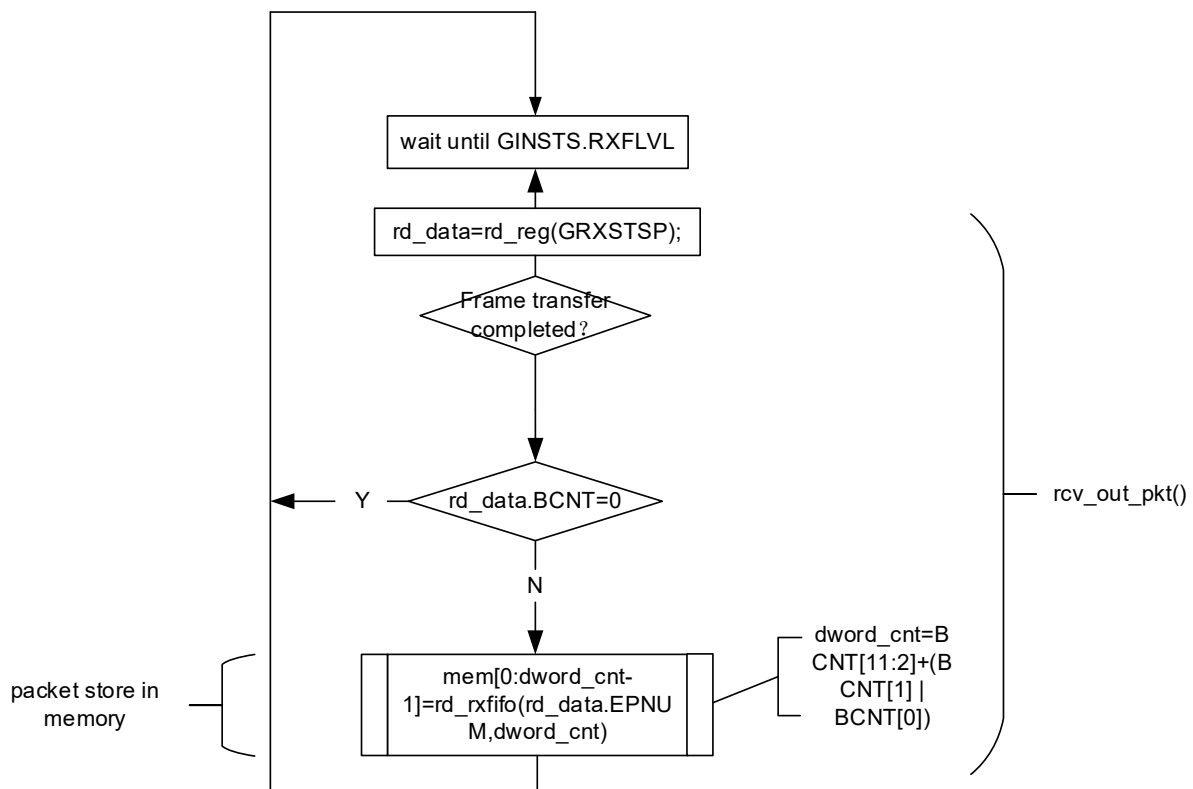

Figure 248. Read receive FIFO
7. Step 1-5 must be repeated each time the application detects the interrupt line due to the RXFLVL bit in the OTGFS_GINTSTS register. Reading an empty receive FIFO will result in unexpected behavior. Figure 248 shows a flowchart.